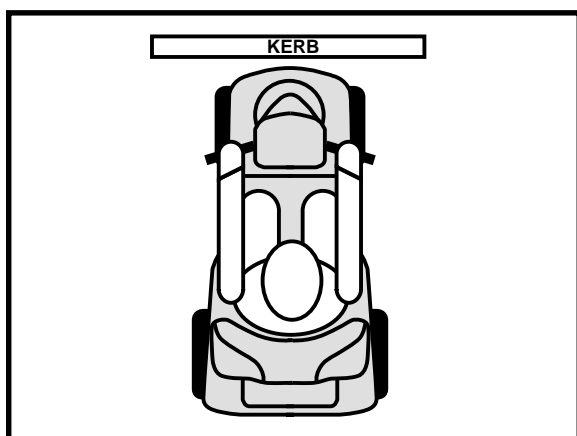

Figure 3. Correct Kerb Approach
**WARNING!** Be sure your Travel Scooter is traveling perpendicular to any kerb you may be required to ascend or descend. See figures 3 and 4.